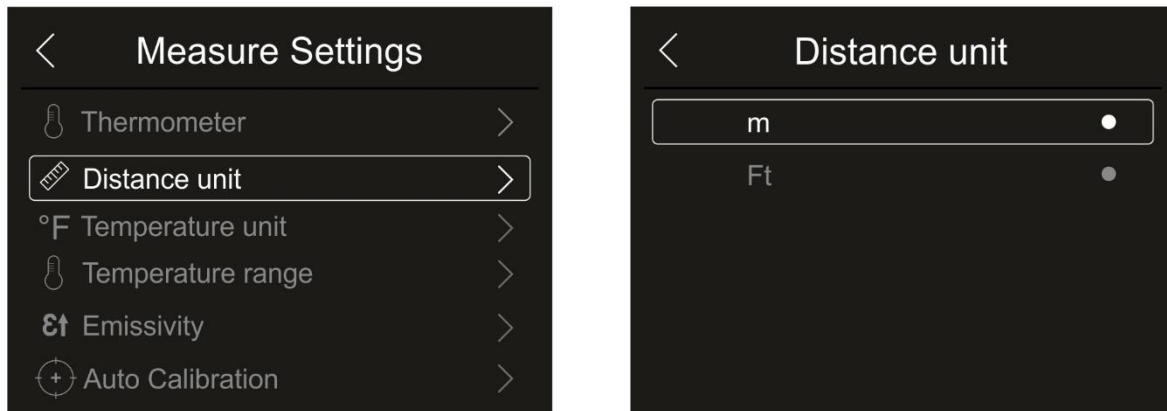

Fig. 25: Menu Setting the distance measuring unit
1. Touch the item “Distance unit” to set the measuring unit of distance. The screen in Fig. 25 – right side appears on the display: